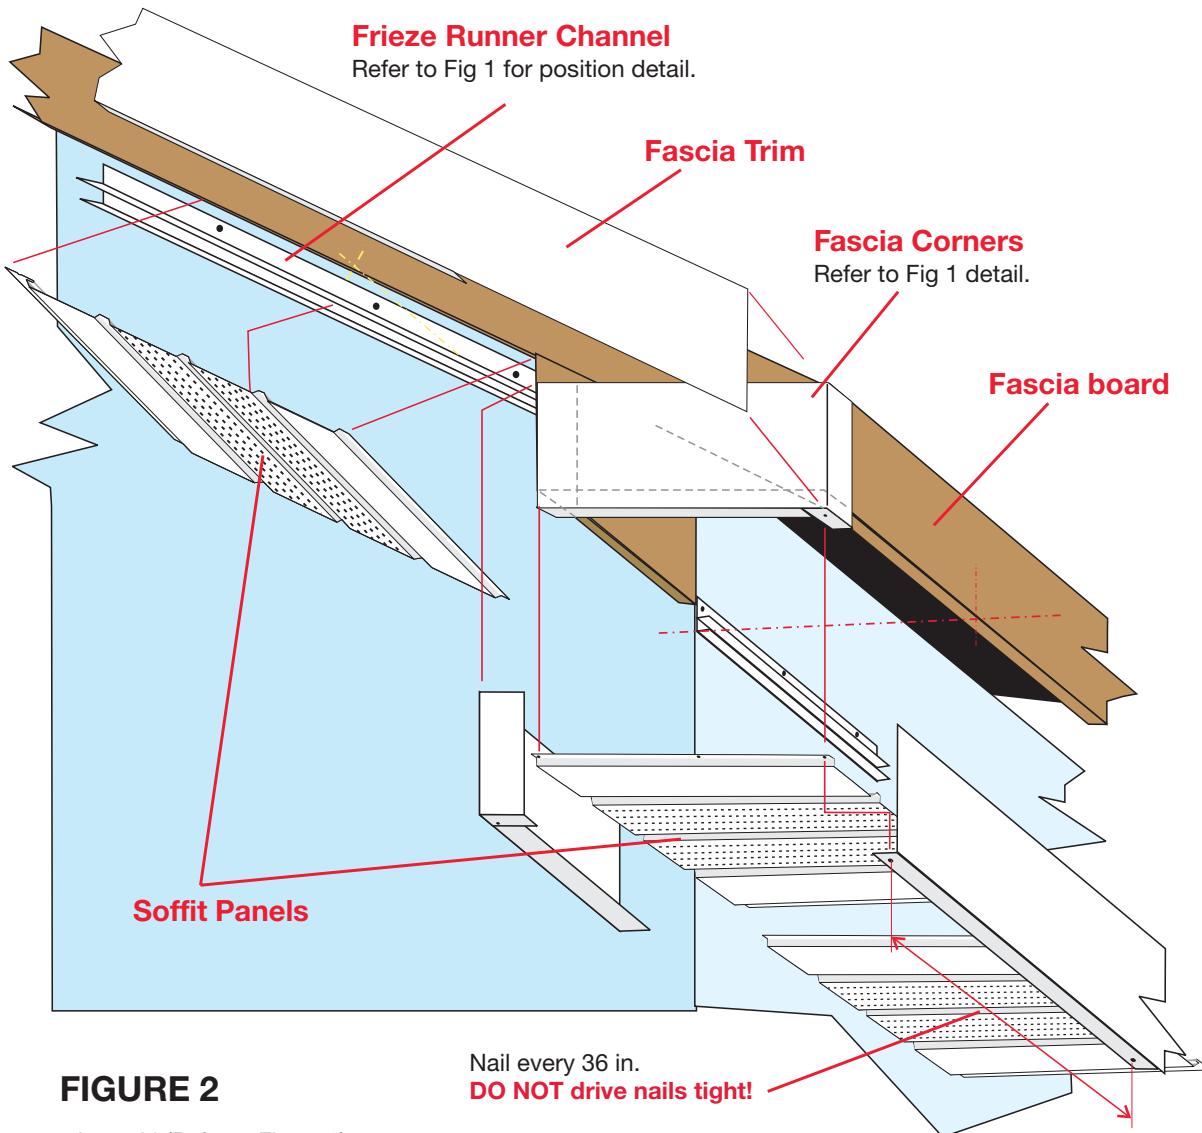

FIGURE 2
Using frieze runner channel:* (Refer to Figure 2)
3. **FASCIA TRIM** - Beginning at corners, cut and bend to form box (see Fig 2), position up snug to underside of soffit panels, pre-drill (align with soffit grooves) and nail through bottom lip of fascia trim every 36" along bottom edge of fascia board. NEVER 'face nail' fascia. DO NOT drive nails tight — fascia must be 'hung', only snug to soffit, to allow expansion and help prevent distortion. Allow at least 1" overlap of fascia where lengths meet. Cover balance of gable end with fascia trim and cut to make overlap joint at peak.